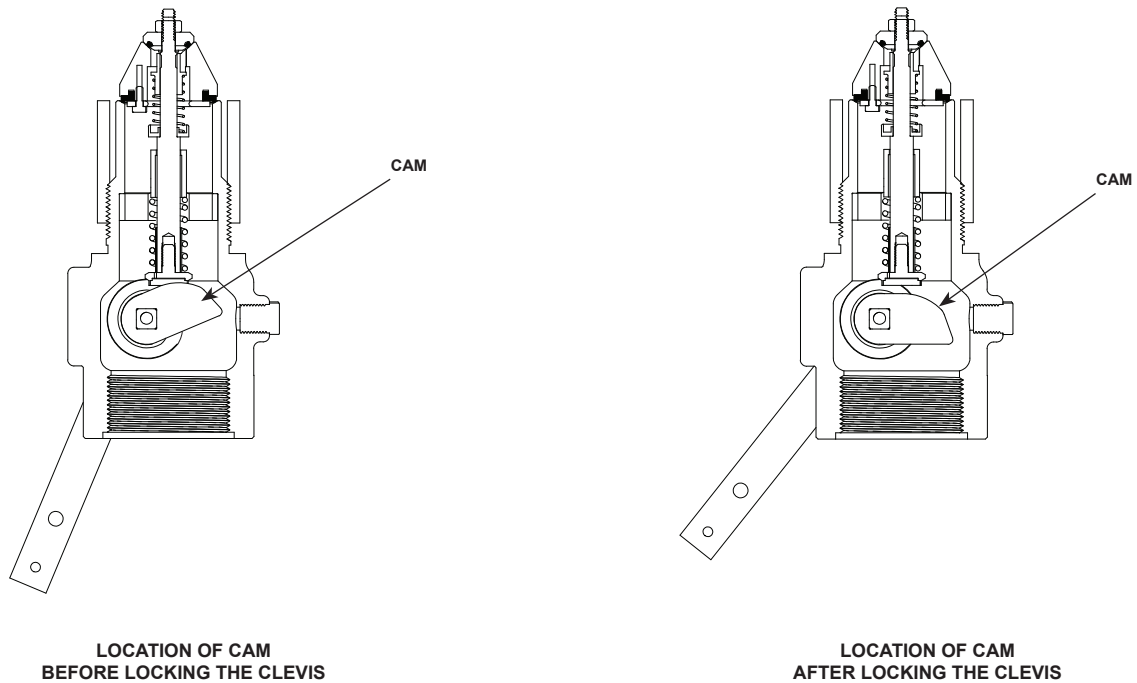

Figure 8. Cam Location
1. Install the cotter pin (key 6) through the operating lever and the internal valve shaft. The clevis (key 8B) is factory installed at 0.79 inch / 20 mm from the face of the brake chamber for optimal operation and should not need additional adjustments. If the internal valve does not close, then adjust the clevis position as follows.
2. Loosen the clevis hex nut (key 8E), the cotter pin (key 8D) and clevis pin (key 8C) to adjust the clevis (key 8B).
3. Establish the clevis position by moving the lever (key 5) so that the cam inside the internal valve is touching the stem (see Figure 8).
4. Rotate the lever back 1/8 inch / 3.2 mm which moves the cam away from the follower (See Figure 8).
5. Adjust the clevis (key 8B) to fit the lever position in step 4.
6. Tighten the clevis hex nut (key 8E). Attach the clevis pin into the lever and clevis. Install the cotter pin on to the clevis pin.